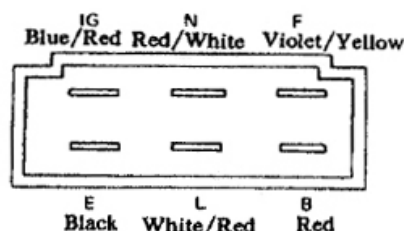

Fig. 10-20
- Open circuit in the line to "N" or "B" terminal of the regulator unit. (Refer to Fig. 10-20)